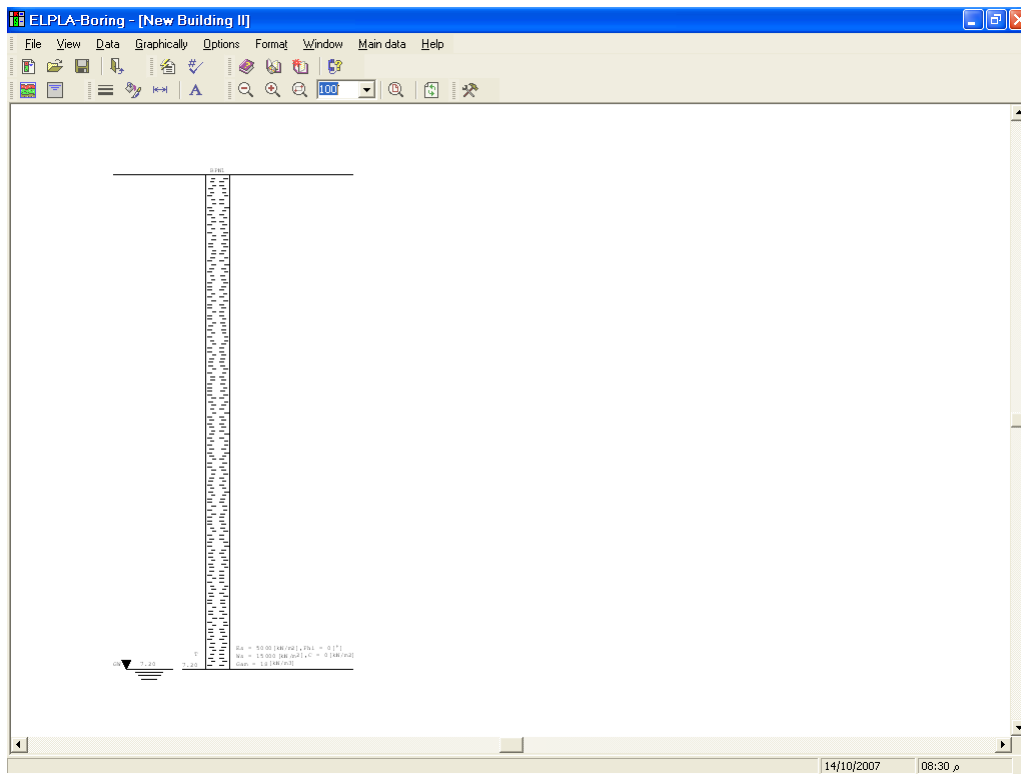

Figure 9-22 Boring log on the screen
After the user has completed the definition of all soil properties and parameters, the screen should look like the following Figure 9-22.
- Choose "Save boring logs" command from "File" menu in Figure 9-22 to save the data of boring log
- Choose "Close boring logs" command from "File" menu in Figure 9-22 to close the *ELPLA-Boring* sub program and to return to the main window of *ELPLA-Data*